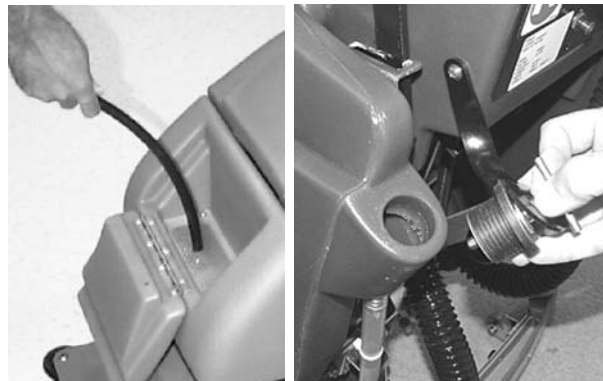

FIG. 9
- Open solution fill door at front of machine and fill solution tank with 38L (10 gal) of clean water, 60°C (140°F) maximum temperature. Or use the rear fill port to fill solution tank. The clear tube below the fill port has 19L (5 gal) increment markers to indicate amount of water in tank (Figure 9).